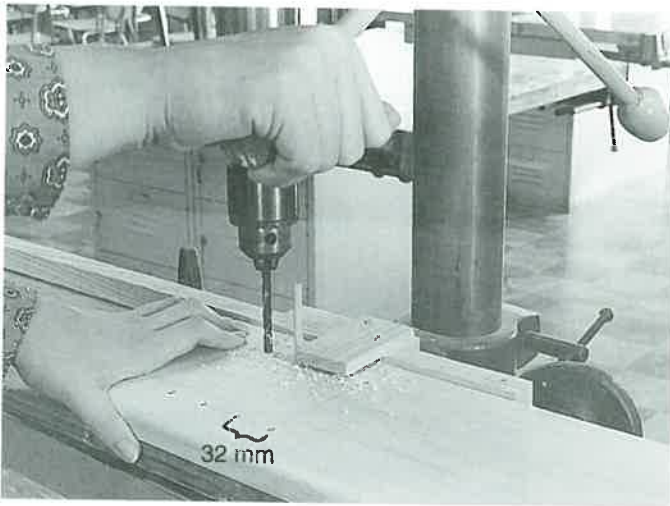

Figure 38-20. Line boring for system holes in a base cabinet side. (Chuck Davis Cabinets)
- * Multiple-spindle boring machine. See **Figure 38-20**.